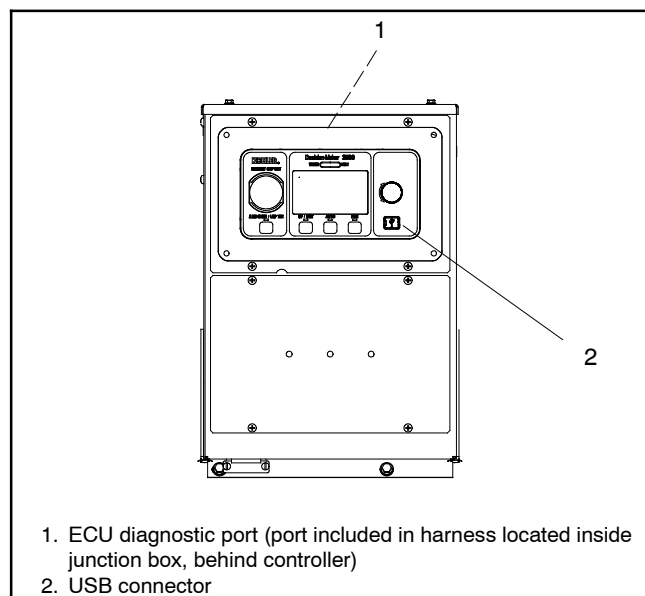

Figure 9-11 ECU Diagnostic Port and USB Connector Locations
1. Connect a USB cable from a Laptop (equipped with SiteTech™) to the Decision-Maker® 3500 controller. See Figure 9-11 for the USB connection at the Decision-Maker® 3500 controller.
2. Connect the Kohler Diagnostic Tool from a Laptop to the ECU Diagnostic port on the generator. See Figure 9-11 for the port location.